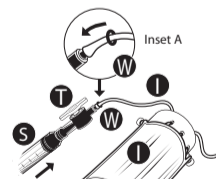

Fig. 20 - Pressurizing the Vein
e. Use an O-ring **W** or clips to secure intake end of valve **T** to end of “wet stick” vein **I** extending from body **B** (Fig. 20, Inset A).
f. Open valve **T** and push syringe plunger until fluid slightly pressurizes vein **I** (Fig. 20).